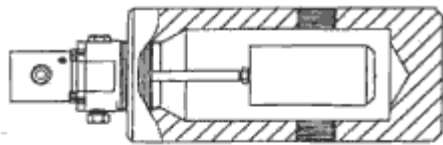
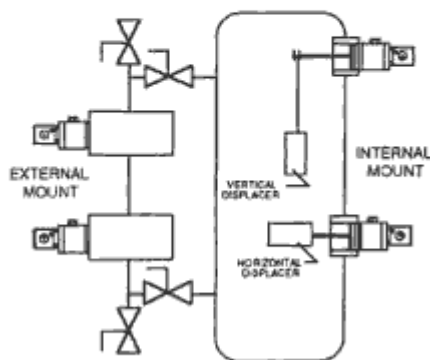

FIGURE 1
FIGURE 2
The K-Dyne, Inc. pneumatic version of the Model L80 is a 2" NPT mounted liquid level switch. It is typically mounted in a K-Dyne Model C80 cage shown in the Figure 1 for external bridle mounting or may be internally mounted in a 2" NPT (F) connection. Both mounting configurations are shown in Figure 2.
It is suggested that the Model L80 be installed in an external cage for maintenance and testing purposes. A recommended piping system for mounting an external cage to a vessel is shown in figure 2. The valves above and below the cage are required for testing and maintenance purposes.
5.0 DISSASSEMBLY (Refer to figures 1 & 3)